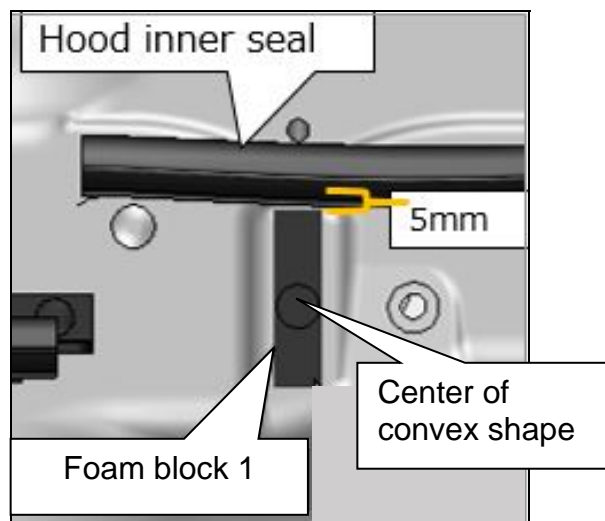

Figure 3
6. Install foam block 1 so that it is in the center of the hood inner convex shape and 5 mm from the hood inner seal, as shown in Figure 3.